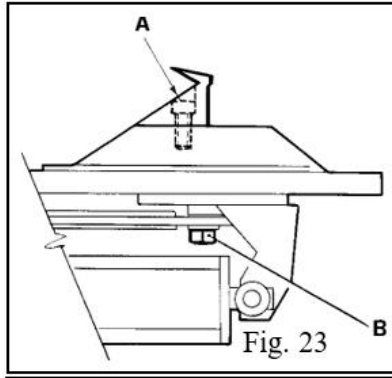

Fig. 23
**Note:** After the first 20 days of work, retighten the clamp tightening screws and the screws on the turntable slides (Fig.23).